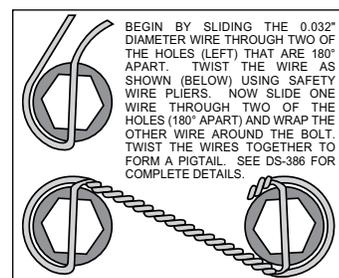

Figure 4. Safety Wire Diagram
- Slide the bracket kit assembly (1) onto the housing flange and then insert the axle assembly through the center hole of the bracket kit assembly (1). Secure using the stock Original Equipment Manufacturer (OEM) bolts and nuts. Stock OEM hex nuts that retain the bracket kit assembly (1) should be on the wheel side of the bracket. Apply red *Loctite*® 271 to the stock OEM bolt threads and torque to OEM specifications. Make sure the bracket kit assembly (1) brake pads are FACING OUTWARD TOWARDS THE WHEEL.
- With the larger I.D. side of the rotor (3) facing away from the hat (2), bolt rotor (3) to hat (2) through the backside of the rotor using washers (4) and bolts (5). Apply red *Loctite*® 271 to the bolt threads and torque to 155 **in-lb** using a criss-cross pattern. For an added measure of security, the bolts may be safety wired using standard 0.032 inch diameter stainless steel safety wire as shown in Figure 4. Please refer to Wilwood's data sheet DS-386 (available at www.wilwood.com/Pdf/DataSheets/ds386.pdf) for complete safety wire installation instructions.